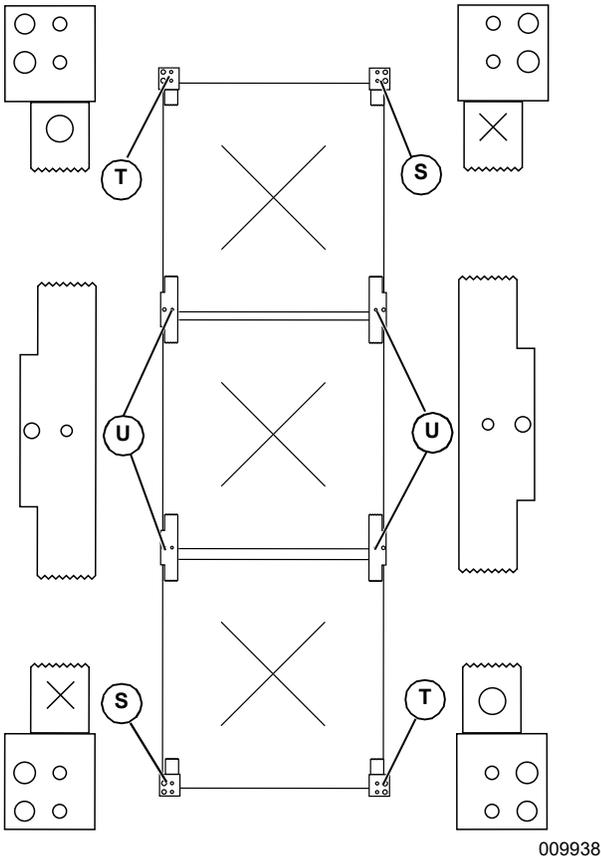

Figure 4-22. Installing Retention Clips (2 of 3)
See **Figure 4-22**. Note that there are three types of retainer clips: double retention clips (U), single retention clips marked O (T) and single retention clips marked X (S).
- Install single retention clips (T) (S) at the top and bottom of the stack.
- Install double retention clips (U) between rows of modules.